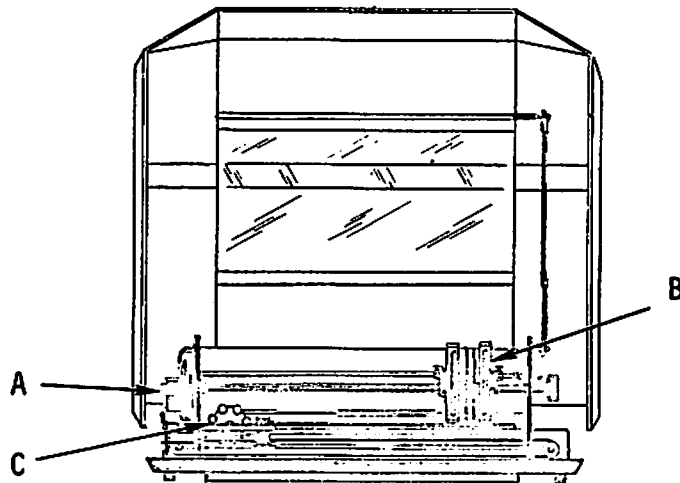

FIGURE 2-2 REMOVAL OF PACKAGING TAPE
- 9) Lift the cover (front lifts upward toward the rear) to remove the tape from the following areas: (Refer to Figure 2-2).